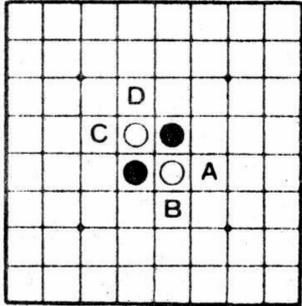

Figure 1
2. Each player places two discs of his colour on the board as shown in Figure 1.
In Figure 1 A, B, C, D, represent the moves that black can make.